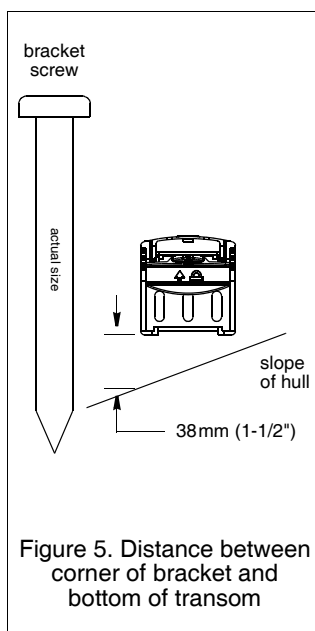

Figure 5. Distance between corner of bracket and bottom of transom
1. Apply marine sealant to the threads of the three, #10 x 1-3/4", self-tapping screws to prevent water seepage into the transom (see Figure 5). Screw the bracket (and shim if needed) to the hull. *Do not tighten the screws.*